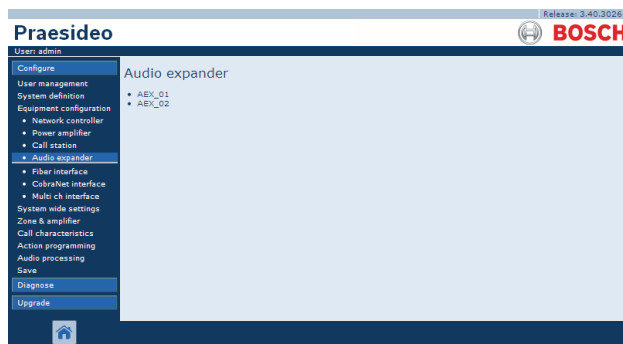

figure 44.36: Configure audio expander, step 1
- 1 Go to *Configure > Equipment configuration > Audio expander*. A screen similar to the one in figure 44.36 appears in the main frame of the web interface.